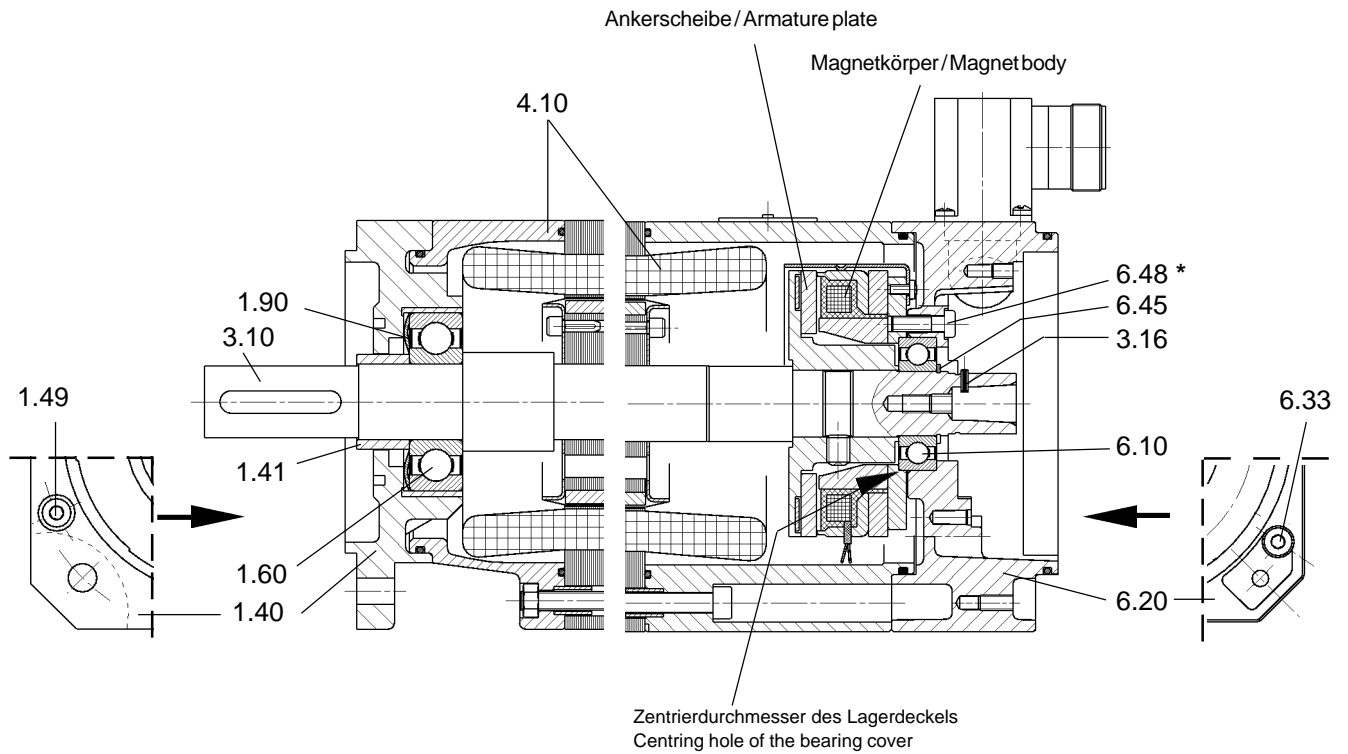

Fig. 108.1 Demontage/Montage von Motorläufer / Removing/Fitting motor rotor
- Fix magnet and ND-end endshield with screws (6.48), tighten to specified torque (see Fig. 108.1) and maintain specified clearance!